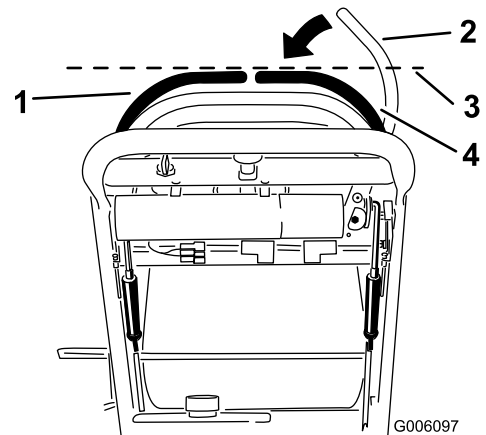

Figure 41
3. Push the right motion-control lever down out of Locked-Neutral position (Figure 41).
4. Check if it aligns horizontally with the left motion-control lever (Figure 41).